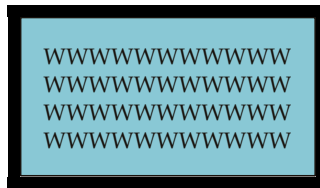

Figure 4-4 LCD Test Screen
4. Use the down ▼ or ▲ up arrow buttons to select the desired test, and press **OK** to run that test (see **Figure 4-4** for an example of LCD test).